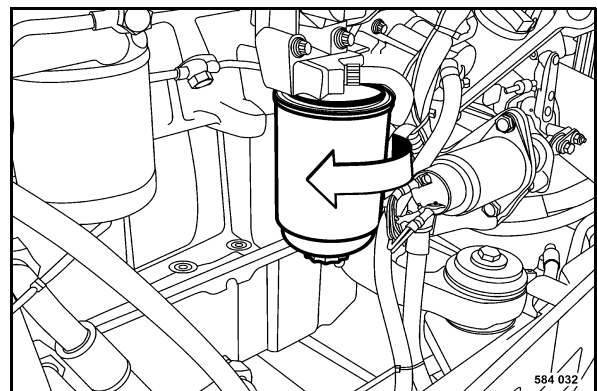

Fig. 144
- Unscrew the fuel filter cartridge (Fig. 144) using an appropriate filter wrench.